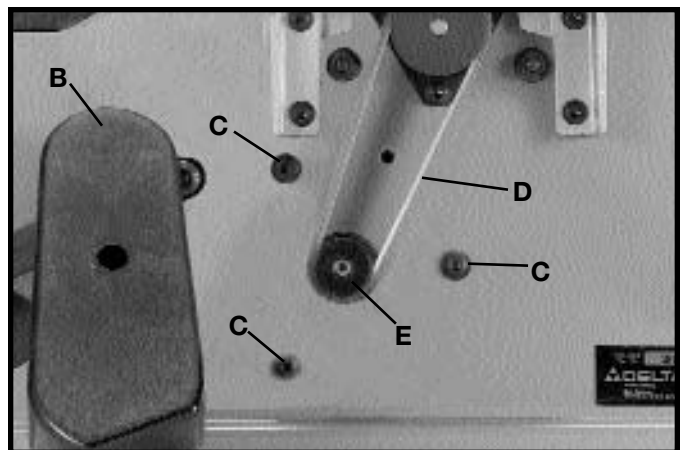

Fig. 44
3. Loosen three screws (C) Fig. 44, to release belt tension and remove belt (D) from pulleys.
4. Assemble new belt to the cutterhead and motor pulleys. Press down on motor pulley (E) Fig. 44, to tension belt and tighten three screws (C).
5. Replace belt guard (B) Fig. 44.